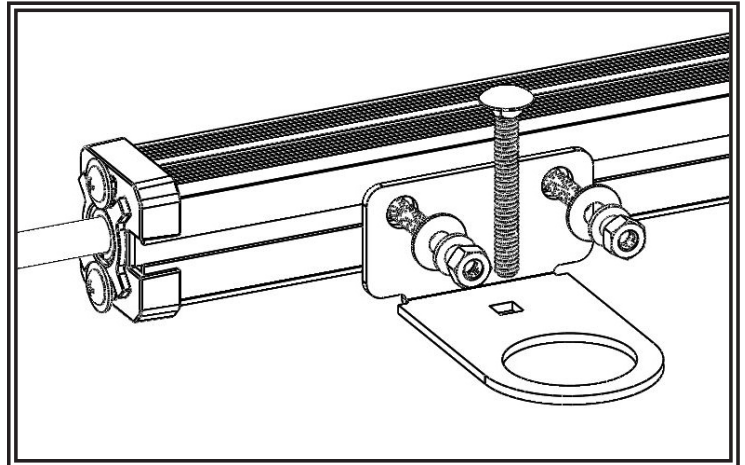

Figure 2
Step 1. Loosely assemble the mounting brackets into the rear channel as shown in FIGURE 2 using the included hardware. Note: Carriage bolt is customer supplied, use of a stainless steel carriage bolt is advised to prevent corrosion.